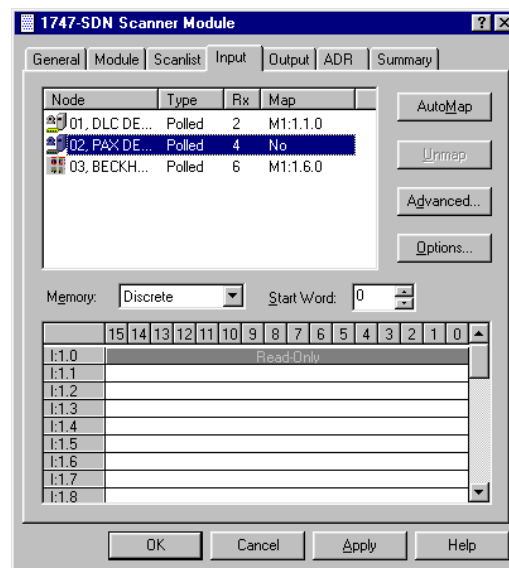

Figure 6
1. Select the **Input** tab from the configuration screen (Fig. 6). From this menu, the input data only will be mapped.
1. Select the **Input** tab from the configuration screen (See Fig. 6). From this menu, the input data only will be mapped.